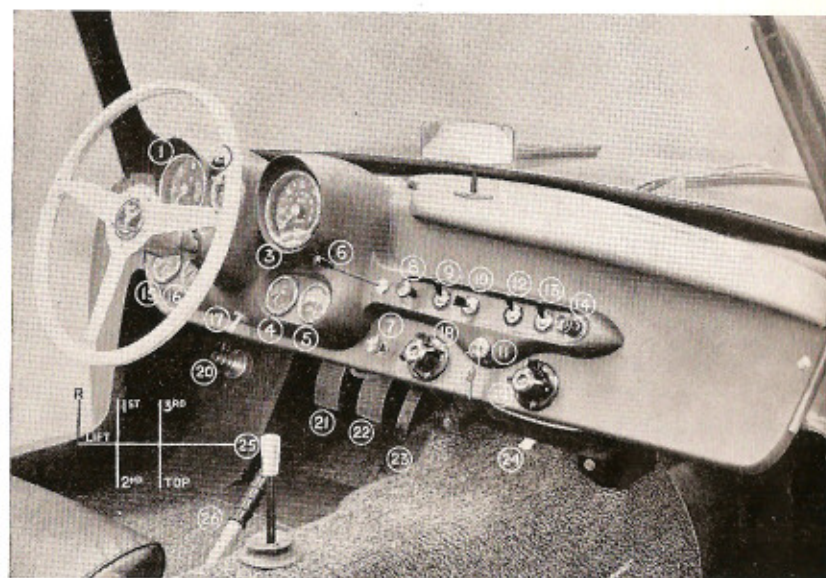

FIGURE 1.
- The seven instruments are grouped in front of the driver in a hooded, non-reflecting nacelle (Fig. 1), and are arranged in such a way as to be immediately visible to the driver, only a small deflection of the driver's eyes being required to read the information they provide.